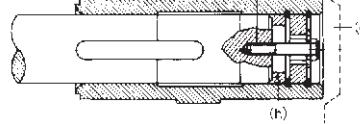

Fig. 5.17
- If the driven shaft does not have a shoulder, a spacer (h) should be used. See Fig. 5.17.